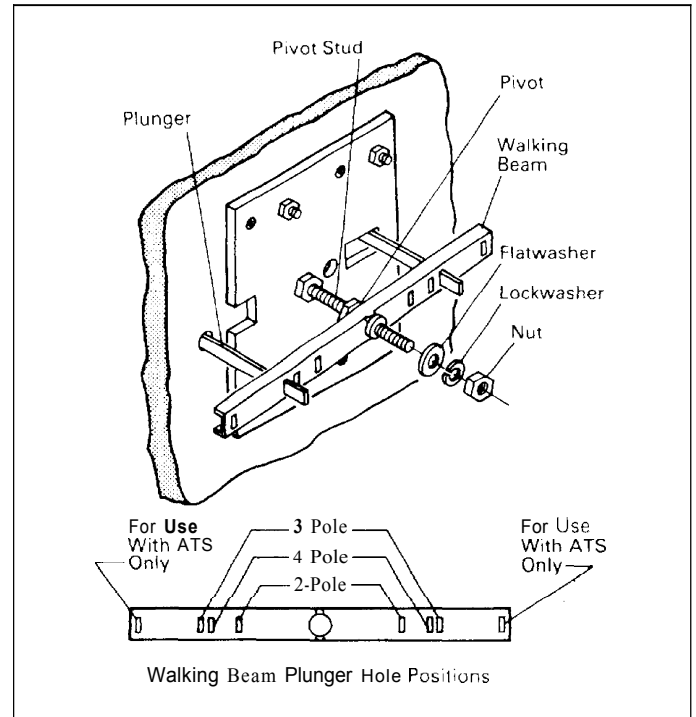

Fig. 2-6. Walking Beam in Position on Pivot Stud
- 2-7. Position walking beam on pivot stud making sure that plungers enter correct holes in walking beam. (See Fig. 2-6.)